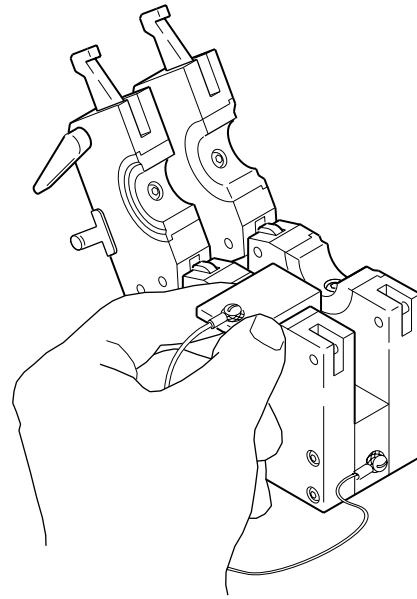

Figure 14 Place the Centering Gage
1. Place the centering gage in one side of the tube fixture block. The centering gage must span the width of the collet. See Figure 14.